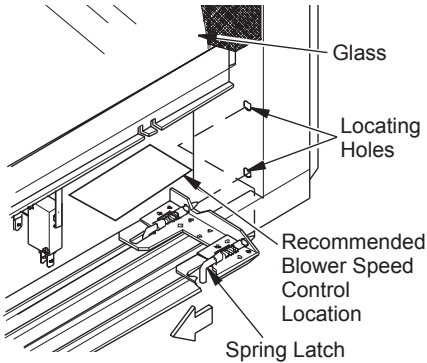
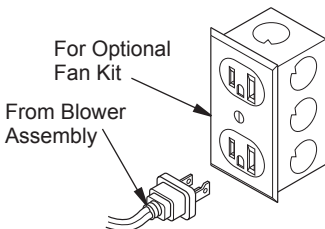

Figure 33 - Removing Louver
Figure 34 - Connecting Blower Accessory to Power Supply
- To remove the louvers, simultaneously pull both top end spring latches towards the center of the appliance until they are disengaged from locating holes. Repeat for bottom spring latches and pull louvers outward. Reverse the procedure to install louvers back onto the appliance (see Figure 33, page 20).
An outlet box with two receptacles has been supplied for your convenience and is located on the lower right side of the appliance (see Figure 34). The variable speed controller is mounted on a magnetic base and may be positioned anywhere within an accessible distance behind the louvered opening (see Figure 33).